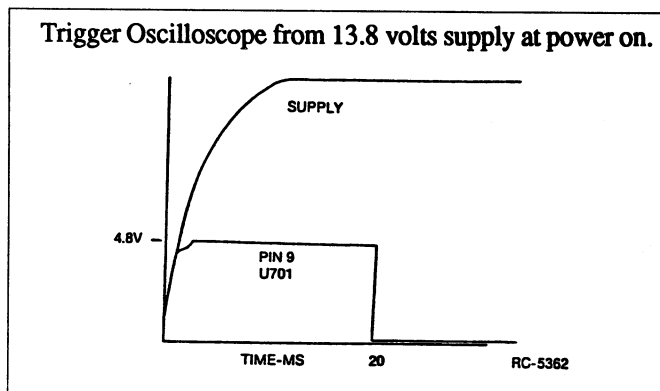

Figure 2 - Reset Waveform
2. Check Power-On Reset on U701, Pin 9 (see Figure 2). If not present, check regulator U705, Pin 2 and transistor Q704.